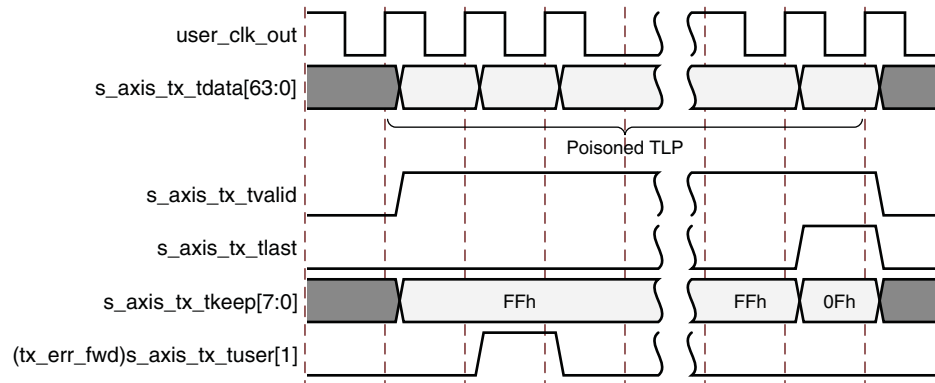

Figure 3-12: Packet Data Poisoning on the Transmit Interface
- Assert `s_axis_tx_tuser[1]` (`tx_err_fwd`) for at least one valid data transfer cycle any time during the packet transmission, as shown in Figure 3-12. This causes the core to set EP = 1 in the TLP header when it transmits the packet onto the PCI Express fabric. This mechanism can be used if the user application does not know whether a packet could be poisoned at the start of packet transmission. Use of `tx_err_fwd` is not supported for packets when `s_axis_tx_tuser[2]` (`tx_str`) is asserted (streamed transmit packets). In streaming mode, you can optionally discontinue the packet if it becomes corrupted. See Discontinuing Transmission of Transaction by Source, page 52 for details on discontinuing packets.